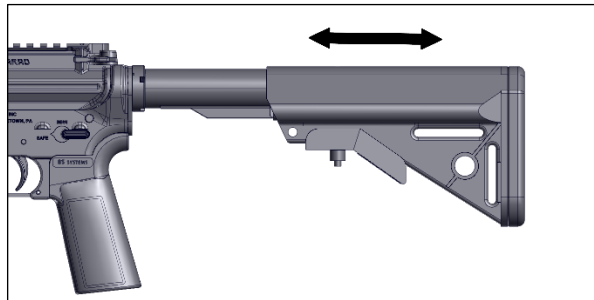

Figure 8-4 - Retracted Buttstock
2. Slide the Buttstock backwards along the slot till it placed to the desired position, then release the Lever. The Pin enters into the intended cutout on the Buttstock Guide, fixing the Buttstock in place (Figure 8-4).